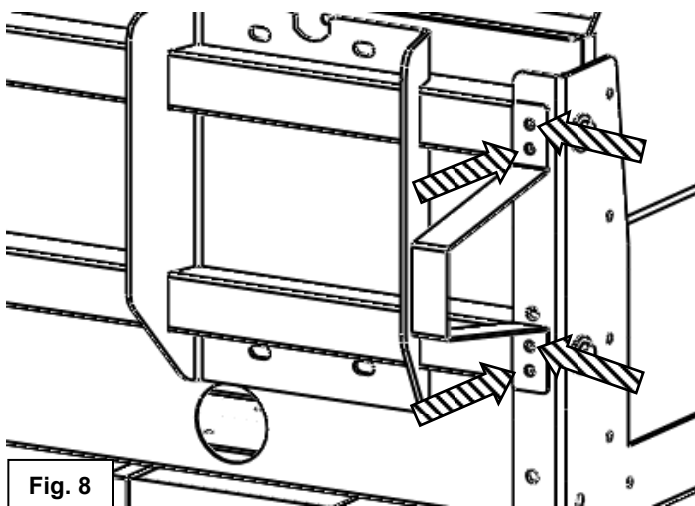

Fig. 8
9. Drill holes with 5/32" bits from the rear of the side mounting bracket into the back mounting bracket and install wall spacer with (4) 10-24 x 1/2" screws as shown in Fig. 8. Repeat procedure for the other side of the assembly.